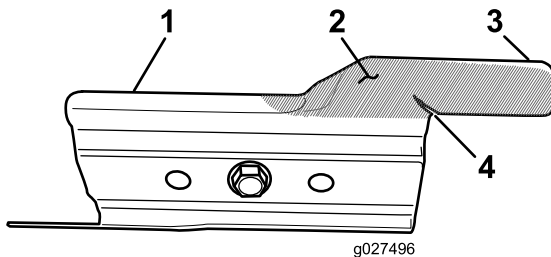

Figure 31
Carefully examine the accelerator for excessive wear (Figure 31). Because sand and abrasive material can wear away the metal (especially in the area shown as item 2 in Figure 31), check the accelerator before using the machine. If you notice that a tab on the accelerator has been worn down to a sharp edge or there is a crack, replace the accelerator; refer to Removing the Blade (page 27).